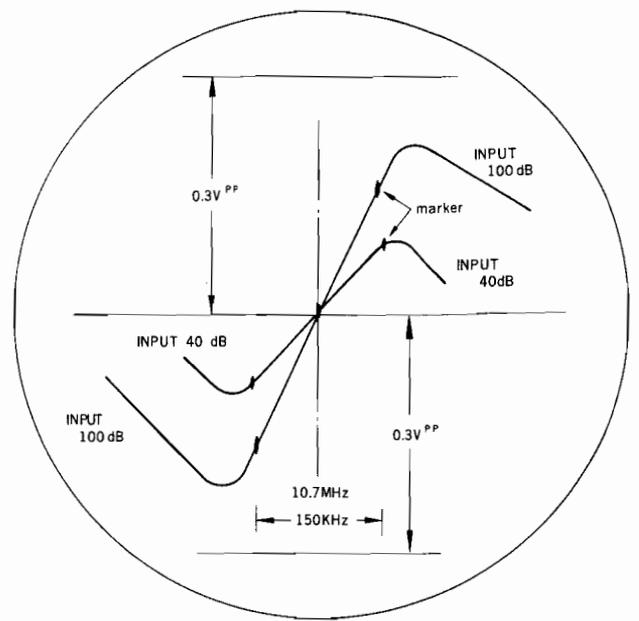

Fig. 5
Adjustment of cores of FM-IF (10.7 MHz) transformers Adjust with 40 dB (100 μ V) output level of the Genescope. Adjust the upper and lower cores of T-601 to T-605 to obtain the wave form shown in Fig. 5 (A). Since this wave form adjustment affects the maximum sensitivity and distortion, make the linearity and peak wave-form value as high as possible. Then set the Genescope output level to 100 dB, and make sure that the waveform is symmetrical on both sides.